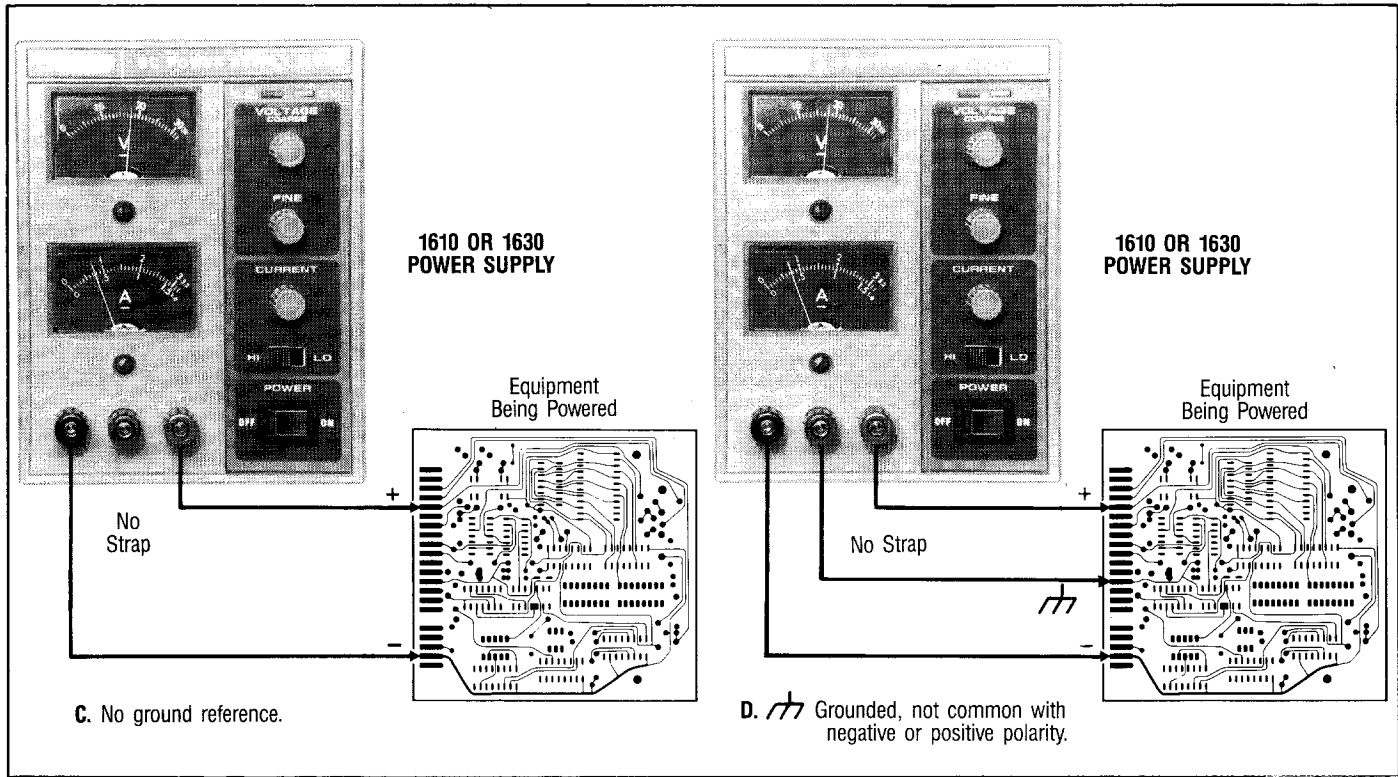

Fig. 3 (C and D). Grounding Possibilities.
4. Fig. 3 illustrates the grounding possibilities.